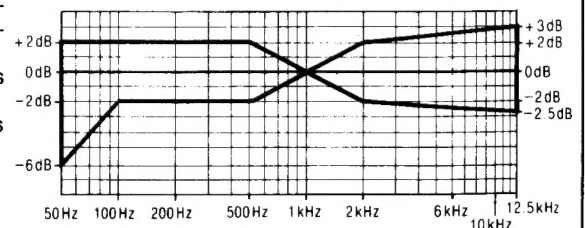
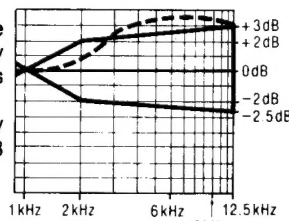
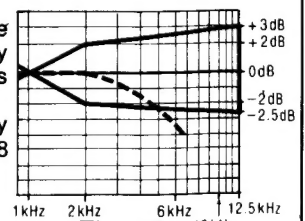

Fig. 11
Fig. 12
Fig. 13
6. Playback the signals recorded in step 6, and check if the frequency response curve is within the limits shown in the overall frequency response chart for normal tapes (fig. 11). (If the curve is within the charted specifications, proceed to steps 7, 8 and 9.)
When the curve exceeds the overall specified frequency response chart (fig. 11) as shown in fig. 12.
When the curve falls below the overall specified frequency response chart (fig. 11) as shown in fig. 13.
- 2) Repeat steps 5 and 6 for confirmation (Proceed to steps 7, 8 and 9 if the curve is now within the charted specifications as shown fig. 11.)
- 3) If the curve still exceeds the specifications (fig. 11), increase bias current further and repeat steps 5 and 6.
- 3) If the curve still falls below the charted specifications (fig. 11), reduce bias current further and repeat steps 5 and 6.